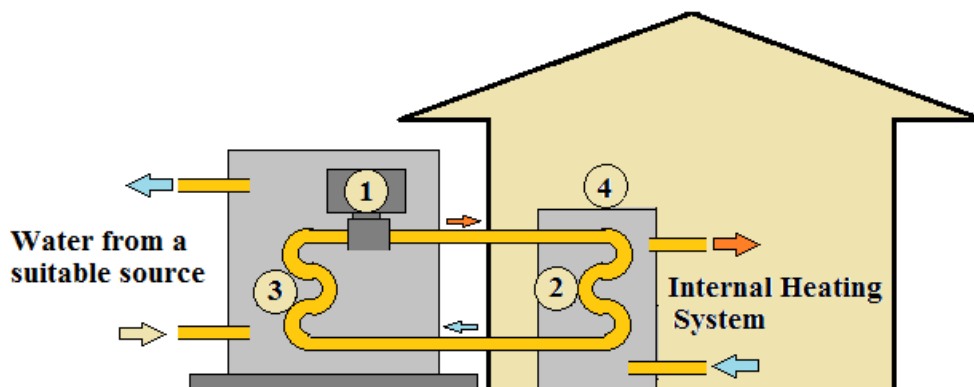

Figure 7
Figure 7 shows the basic set up of a heat pump. The heat pumps need a source of free low grade heat at the evaporator (3) such as a lake, river or deep geothermal source but commonly normal atmospheric air is the source. If warm water such as that expelled from a power station cooling system is available then the system is much more effective.